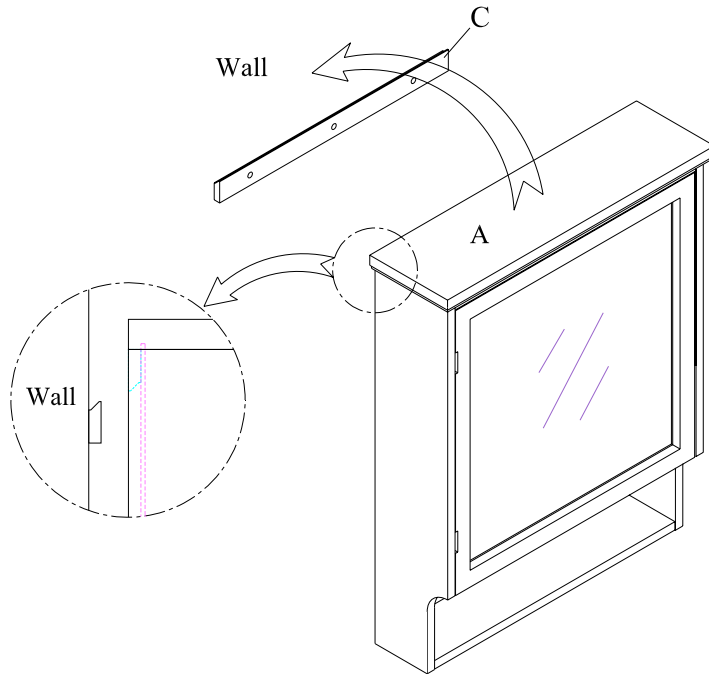

Figure 2
1. On the back of your product is one affixed product-mounting bracket. **Figure 2.**